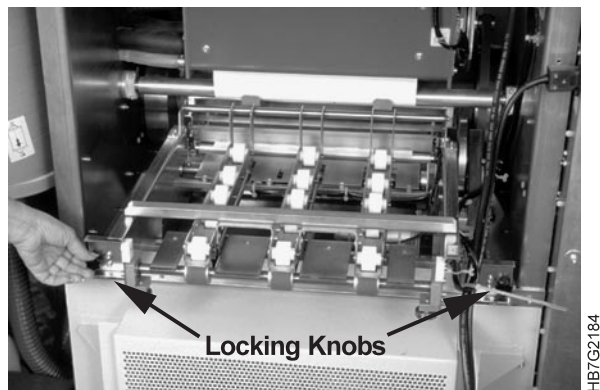

Figure 333. Cutter Assembly Thumbscrews
24. While holding the paper straight, move the cutter back into place and replace the two black thumbscrews, as shown in Figure 333.